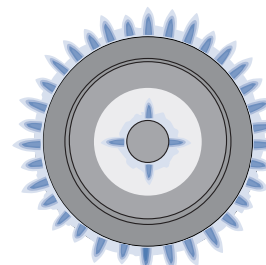

Fig. 4
3. Visually check that both the inner and outer rings are lit -Fig. 4. When both burners are lit, continue to turn the control knob counterclockwise to adjust to the desired flame size.